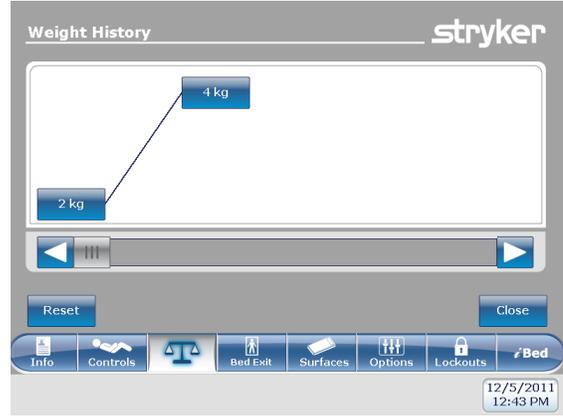

Figure 27: Weight history
To reset the stored weight histories, tap **Reset** (Figure 27 on page 45).
To change the displayed measuring unit, tap **lbs/kg** (Figure 27 on page 45).
To store the current weight reading, tap **Store** (Figure 27 on page 45).
To return to the **Scale** screen, tap **Close** (Figure 27 on page 45).
1. Tap a weight value in the weight history screen (Figure 27 on page 45). When tapped, each value displays the time and date of the measurement (Figure 28 on page 45).